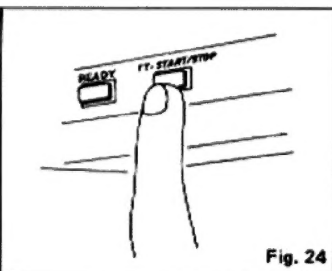

Fig. 24
5. Press the TT-START/STOP button and the platter starts to rotate. (Upon reaching the correct speed, the "QUARTZ LOCK" indicator lights.) (Fig. 24)